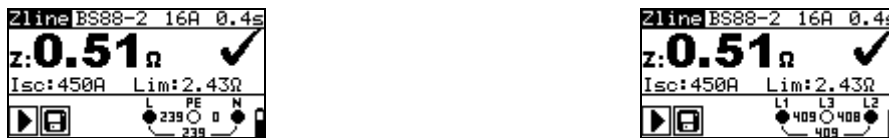

Figure 5.33: Examples of line impedance measurement result
- ❑ **Connect** the test leads to the origin of the electrical installation (see Step 1 of Figure 5.33).
- ❑ **Connect** the test leads to the point in the wiring or socket to be tested (see Step 2 of *Figure 5.33*).